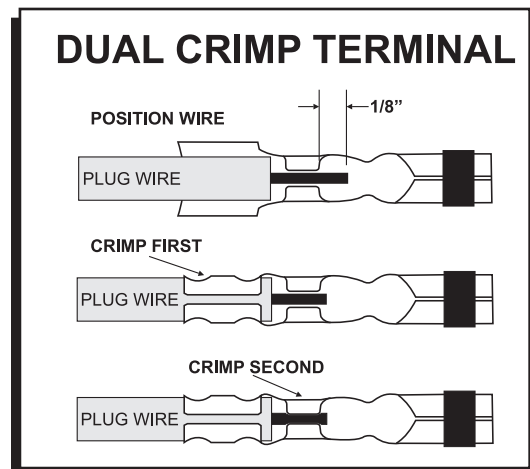

Figure 9 Crimping a Dual Crimp Terminal
1. After stripping the sleeve, position the wire in the terminal so the insulation protrudes about 1/8" beyond the insulation crimp tabs and the conductor extends about 1/8" past the conductor crimp tabs (Figure 9)